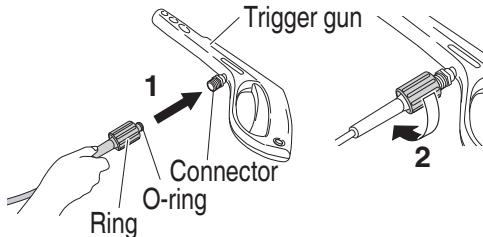

Fig. 8
3. Attach the high-pressure hose to the trigger gun. (Fig. 8)